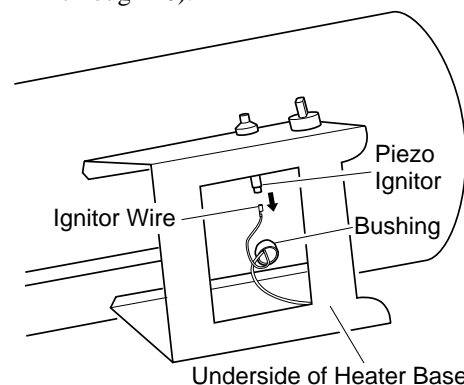

Figure 17 - Removing Ignitor Wire from Piezo Ignitor
2. A) Check ignitor wire. Tighten or reattach loose ignitor wire. See Figure 17, page 9 for ignitor wire location
2. Remove black ignitor wire from piezo ignitor. Access ignitor wire through underside of heater base (see Figure 17). Push wire up through bushing in heater shell.